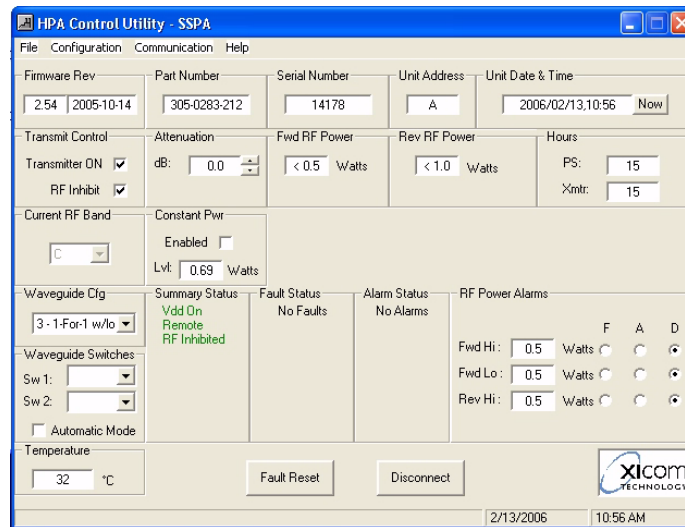

Figure 17, Primary User Interface - Connected
2. Refer to Figure 17. Once communication has been established, the Firmware Revision, Part Number, Serial Number, RS485 Address, Unit Date & Time, Attenuation setting, Forward RF Power, Reverse RF power, Waveguide configuration, Waveguide switch positions (if applicable), Power Supply and Transmit ON hours are reported.